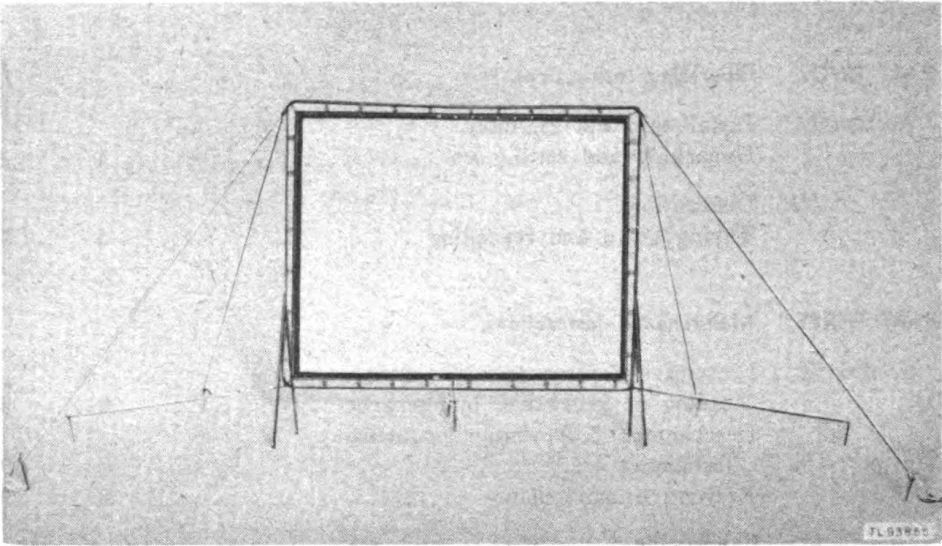

Figure 1. Screen PH-555/GF set up for operation.
I. General (fig. 1)
m. Install the stakes (figs. 1 and 11), driving the stakes at an angle to prevent the guy ropes from pulling them out of the ground.